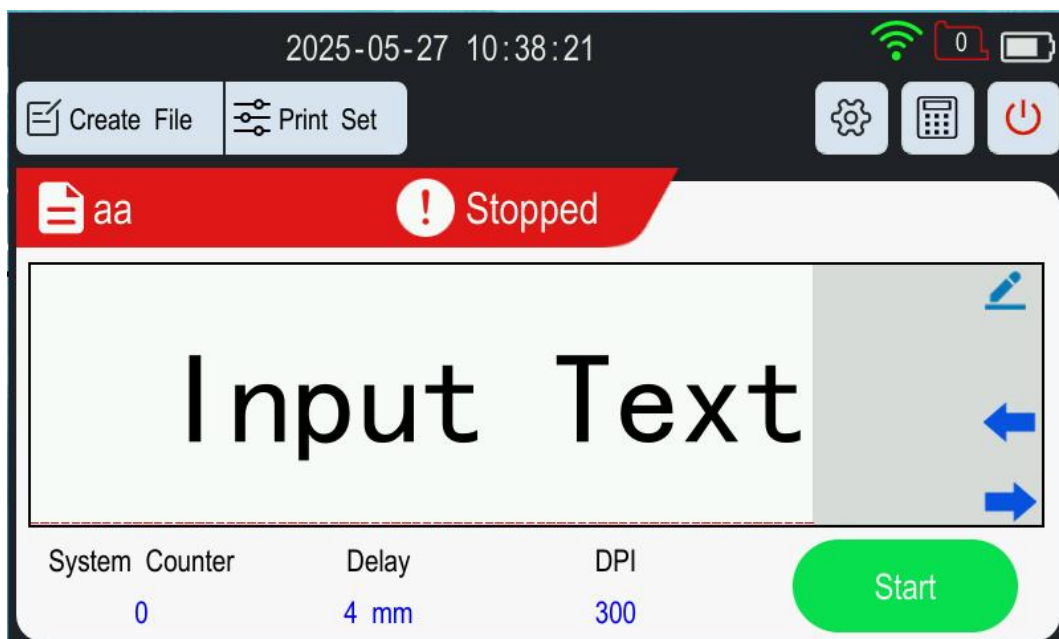

Figure 5-15 Main interface
1. In the main interface,  click the button to enter the file editing interface as shown in Figure 5-15.